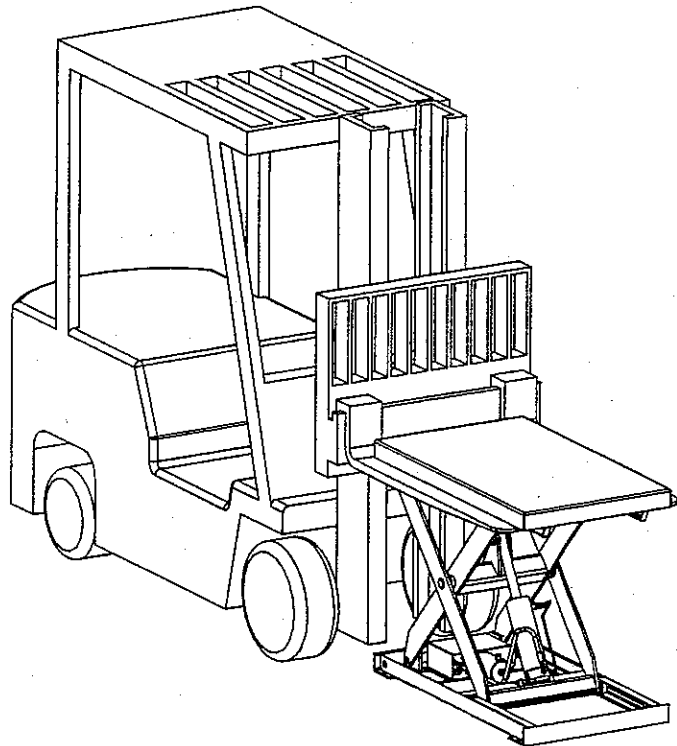
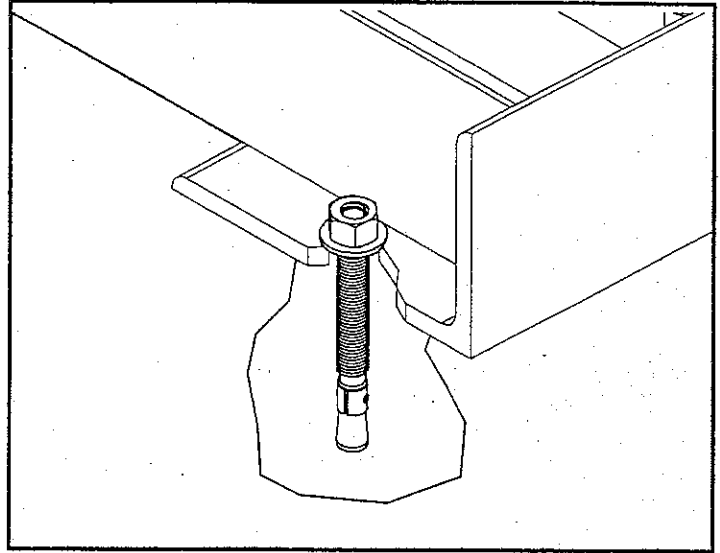

Figure 6 - Handling the Lift2K Lift
Figure 7 - Anchor Bolt Detail
5. Using a forklift, position the forks under the platform structure, as detailed in Figure 6. Proper care should be exercised while using the fork lift as to not damage the lift. Lift the Lift2K™ lift off the pallet. Next, remove the pallet and place it off to the side. Position the lift in the desired location. Use care not to damage the lift's power cord or control cord. Following the Maintenance Bar Operating Instructions on page 6, engage the maintenance bars.
6. The lift table's base frame has four (4) 5/8 inch holes for lagging the unit securely to the floor. Using the four (4) holes as a template, drill a 1/2 inch diameter hole to a minimum depth of 3 1/2 inches at each location. The floor surface should be level and the drilled holes perpendicular to the floor. If necessary, shift the position of the lift to allow room for drilling then drill. When complete, reposition the lift.
7. As detailed in Figure 7, prepare the 1/2 inch diameter x 4 inch long anchor bolts (USE type SUP-R-STUD #26-12400 or equivalent) by assembling the washer and nut on the anchor bolt. The nut should be screwed onto the anchor bolt approximately 1/2 the nut height. Drive the assembled anchor through the mounting holes into the concrete until the washer is flush with the top of the anchor plate. Expand the anchor shield by tightening the nut as required for tight fit, approximately three (3) to five (5) turns. Repeat step 7 for the remaining anchors. (NOTE: Make sure the underside of the base frame surface is fully supported, use shims or concrete grout if necessary.)